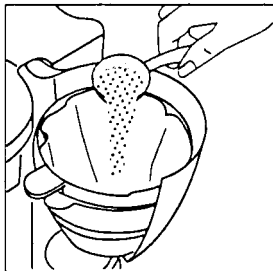

FIGURE 6
3. **Fill with ground coffee (Figure 6).**